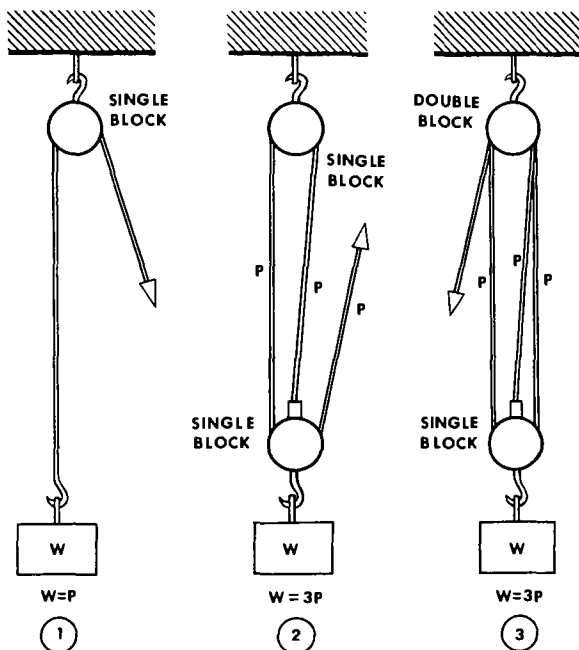

Figure 77. Examples of simple tackle.
- (2) *Running block.* A running block is attached to the object to be moved.
- (3) *Standing block.* A standing block is fixed to some stationary object.
- (4) *Simple tackle.* A simple tackle consists of one or more blocks reeved with a single rope.
b. Mechanical Advantage. The mechanical advantage of the block and tackle is found by dividing units of weight lifted by units of pull (force) necessary to lift it. In simple tackles, the mechanical advantage gained is a direct function of the number of ropes *supporting* the load. Thus, if the movable block is a double one, four or five ropes will sustain the load (depending on the direction of pull) and the mechanical advantage is four or five to one. Figures 77 and 78 illustrate the use of block and tackle and show the mechanical advantage obtained.